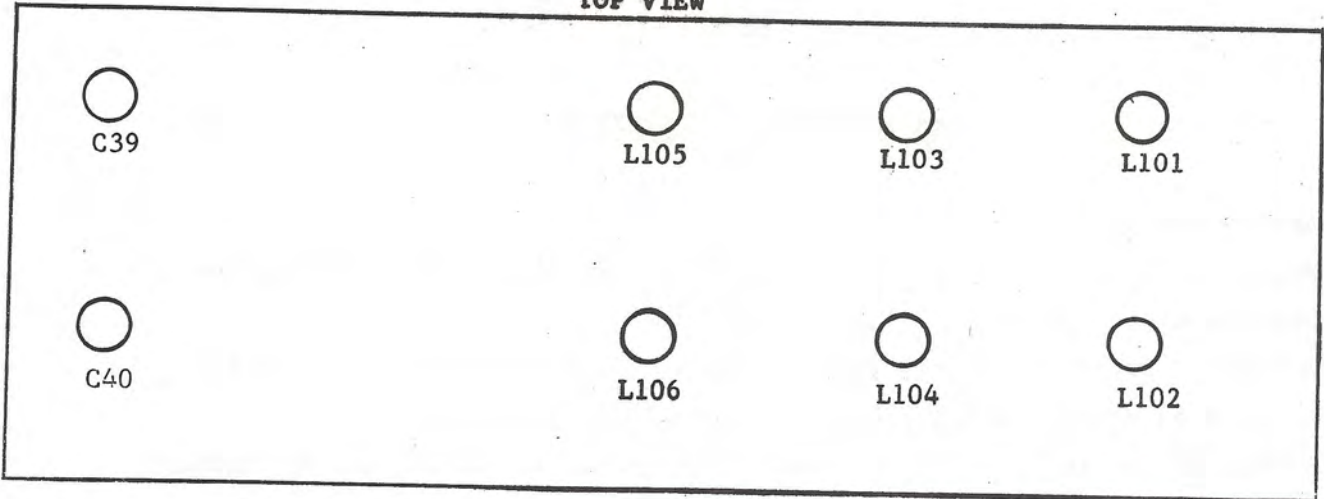

FIGURE 5-1 MULTIPLIER BOX
- 5.2.3 Tune L101 on Multiplier Board for Minimum in Test Meter #3. Place Test Meter to Position #4 and tune L202 for Maximum. After reading is obtained, tune L101 and L102 for Maximum Reading in Test Meter Position #4. Refer to Figure 5-1 for coil location.
- 5.2.6 Insert a 50 ohm Dummy Antenna with a Watt Meter into output of Multiplier Box. Adjust C39 and C40 for Maximum Power Output. This should be 300 to 500 milliwatts. (150 MHz one watt element). Refer to Figure 5-1 for C39 and C40 locations.